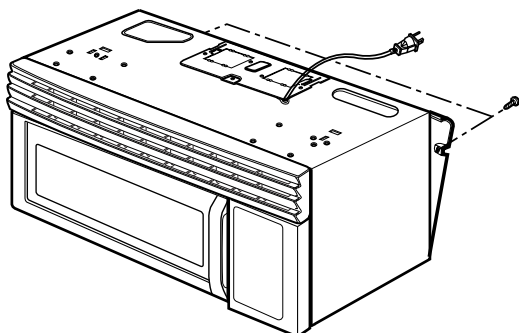

Figure 16
- (1) Remove the mounting plate by removing two screws securing it to the back plate. (See Figure 16)